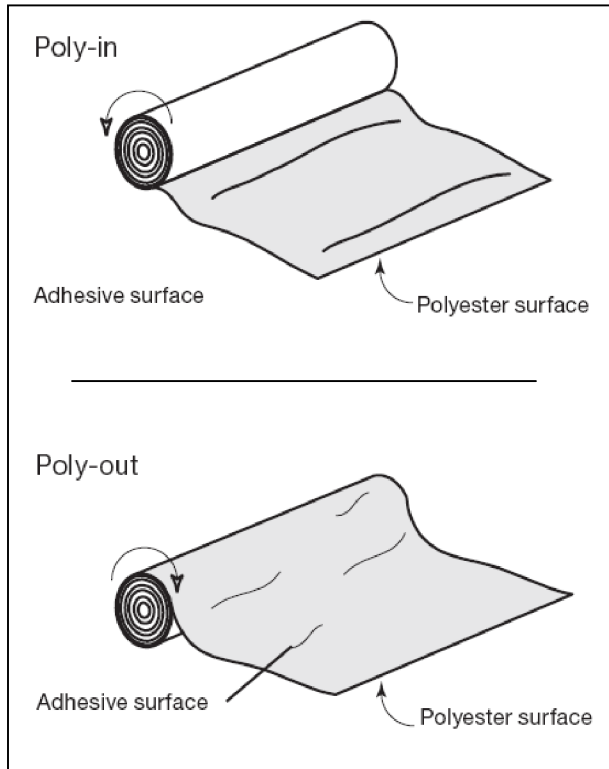

Fig. 6-3. Poly-In and Poly-Out Films
2. Slide the new roll on to the shaft and core adaptors, referring to Fig. 6-3. to determine how the film unwinds from the roll. Use the set screws in the core adaptors to move the adaptors if needed. The grippers on the core adaptors should be pointing in the opposite direction that the film unwinds from the roll.